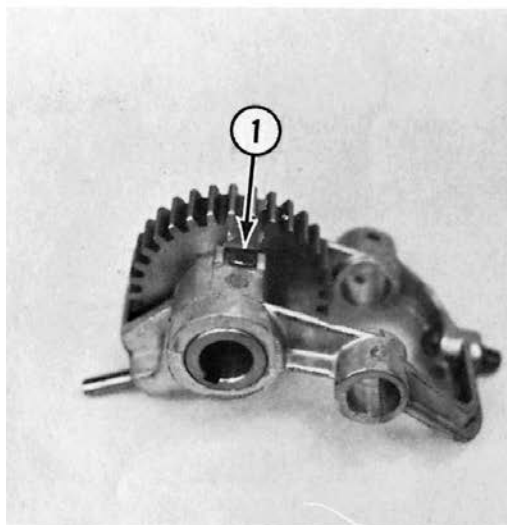

Fig. 3-20
C. Straighten the tongue (1, Fig. 3-20) on the shifter sleeve retainer.